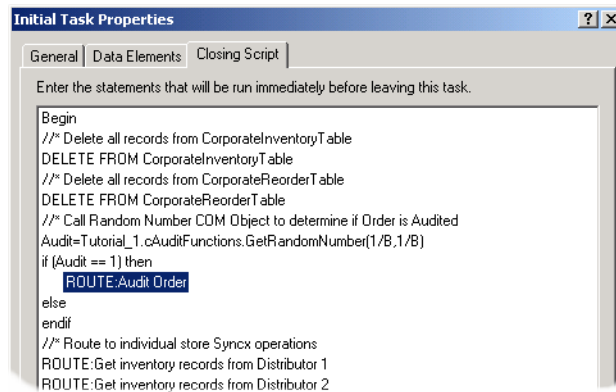

Figure 28-23. *Begin Data Aggregation task with inserted If/Then statement for Audit.*
- 6 Now click on the **ROUTE: Audit Order**, then drag it up until the **If (Audit == 1) then** expression highlights. When you release the mouse, the **ROUTE: Audit Order** will drop into the first part of the **IF** expression. Compare your work to Figure 28-23, below.